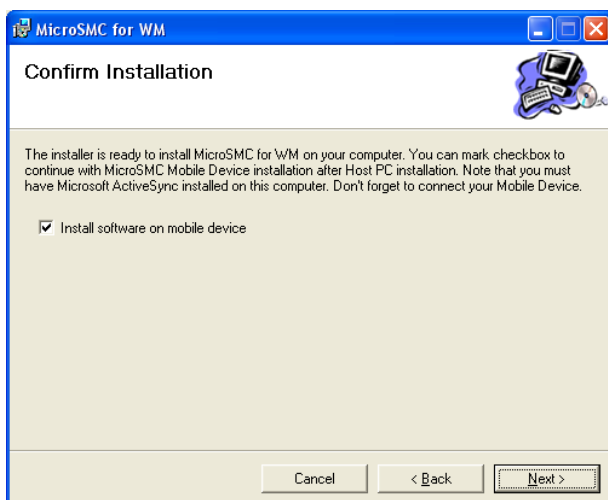

Figure 55. MicroSMC for WM host PC installation 4th screen
- Mark "Install software on mobile device" checkbox for installation software on mobile device and press the "Next>" button (see Figure 55).